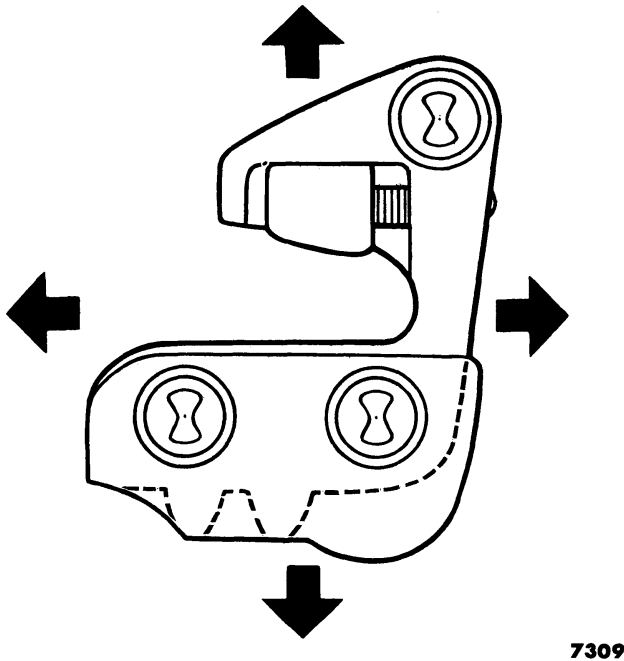

Fig. 10—Striker Plate Adjustments
floating tapping plate. The holes in the pillar face are enlarged to permit in and out, as well as up and down movement (figs. 10 and 11).
(2) **ADJUSTING “IN” AND “OUT” MOVEMENT.** Scribe a pencil line along the top of the striker plate for a reference line to maintain the “UP” or “DOWN” adjustment (fig. 10). Loosen the striker plate retaining screws. Position the striker plate (either inward or outward) so that the door will close with a normal swing, and the plate will hold the door tight enough to prevent the door from rattling when it is closed. Tighten the screws securely.